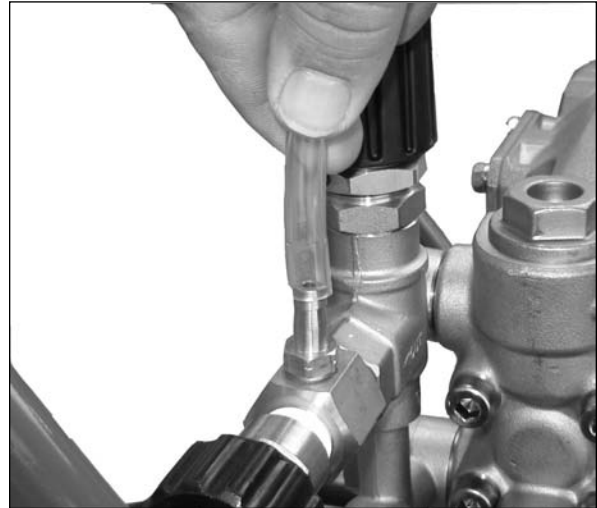

Figure 2 - Connect hose to brass barb
1. Attach clear plastic tube to plastic barb on detergent tank (see Figure 2).
1. Attach clear plastic tube to brass barb on pump (see Figure 2).
2. Connect clear plastic hose to brass barb on pump (See Figure 2).